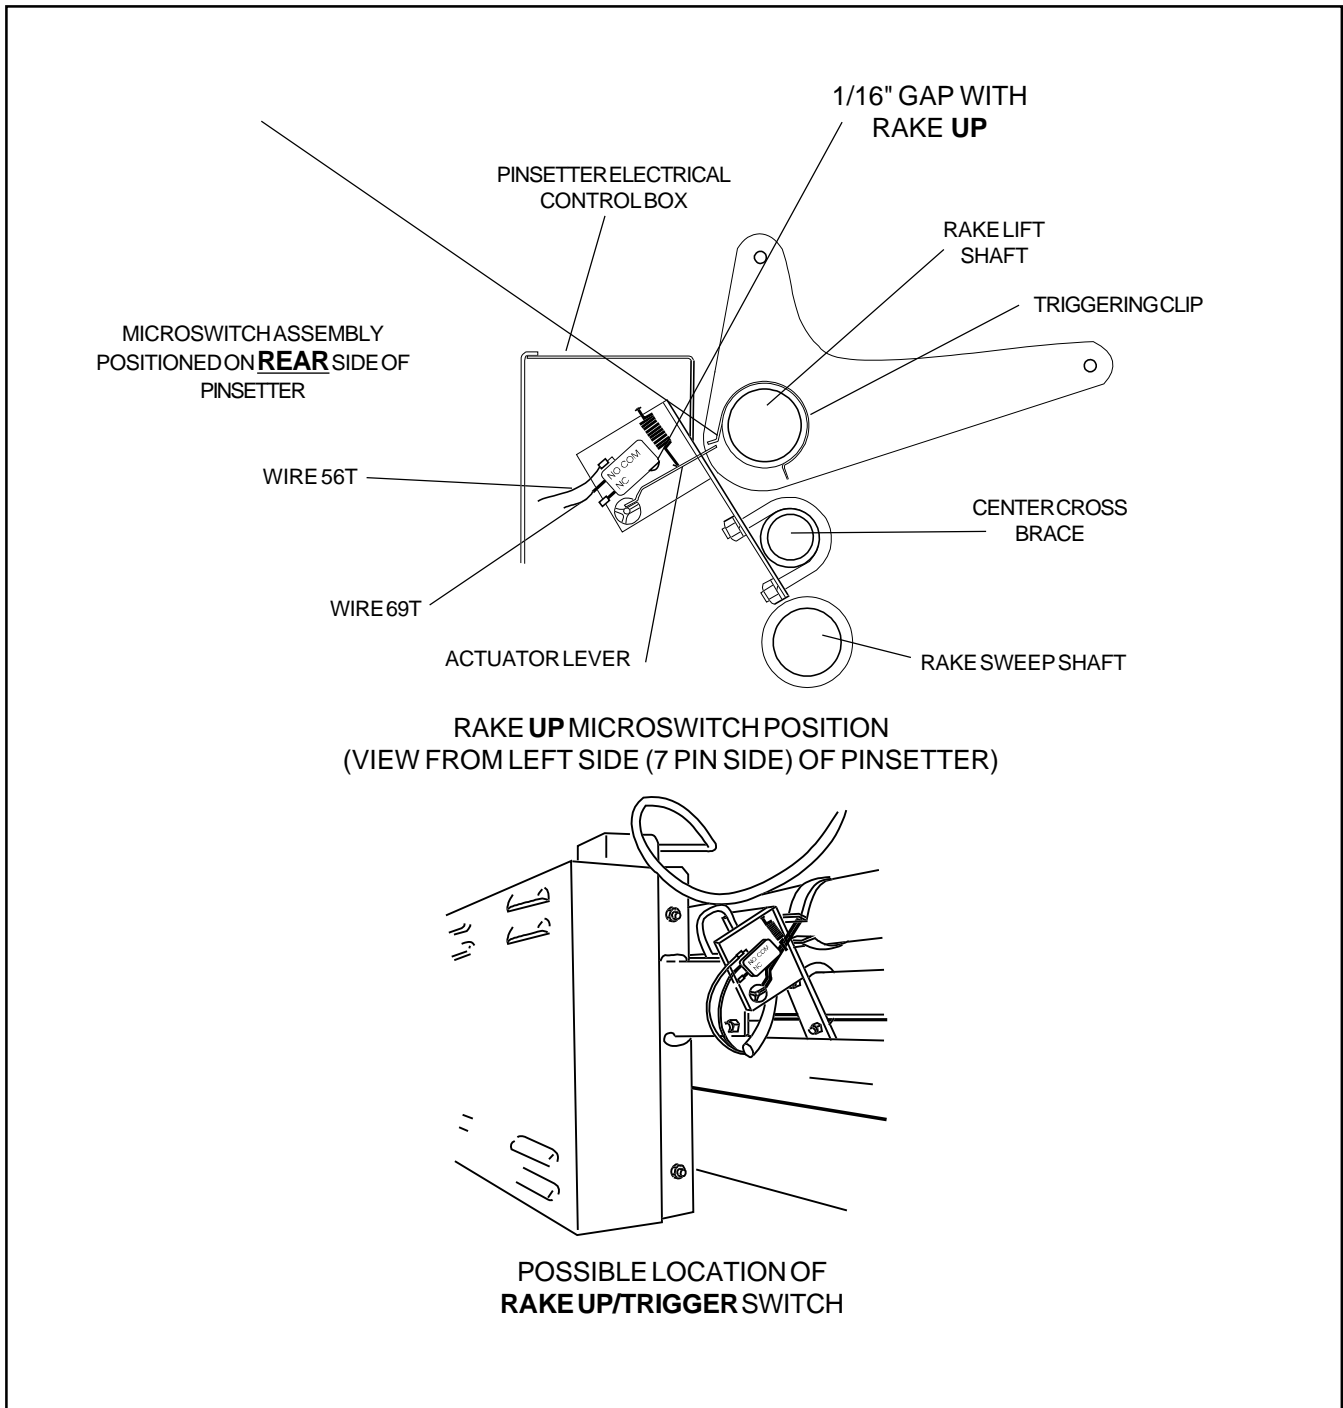

Figure 4. Rake Position Safety Switch Locations and Adjustments
1. Locate the Rake-Up/Trigger microswitch assembly and install it with the U-bolt clamped around the center cross brace. (Figure 4) (This switch assembly is identical to the Rake Down microswitch assembly included in the standard electrical trigger/control system except the microswitch is positioned differently and the wire harness is connected to the Common & Normally Open terminals.) The Rake Up/Trigger microswitch assembly can be installed on either side of the electrical control box, but make sure the switch is positioned on the REAR side of the pinsetter. Rotate the switch assembly so the end of the actuator lever clears the rake lift shaft by 1/16". Tighten the U-bolt nuts.